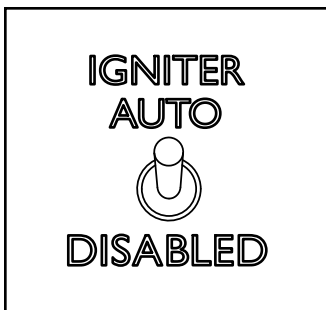
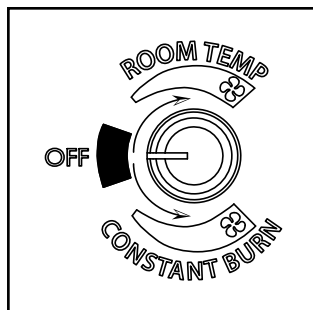

Figure 2.3
Figure 2.4
4. Flip toggle switch to desired mode "Auto or Disabled". Figure 2.3. Set feed limit knob to desired setting and turn mode dial to "Room Temp" or "Constant burn" Figure 2.4.